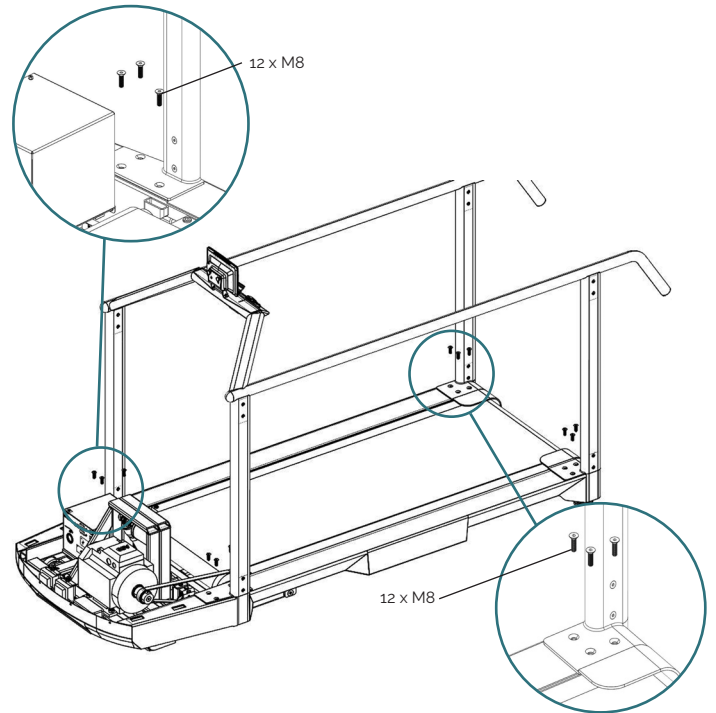

FIGURE 2
3. Remove 12 M8 screws, see fig: 2